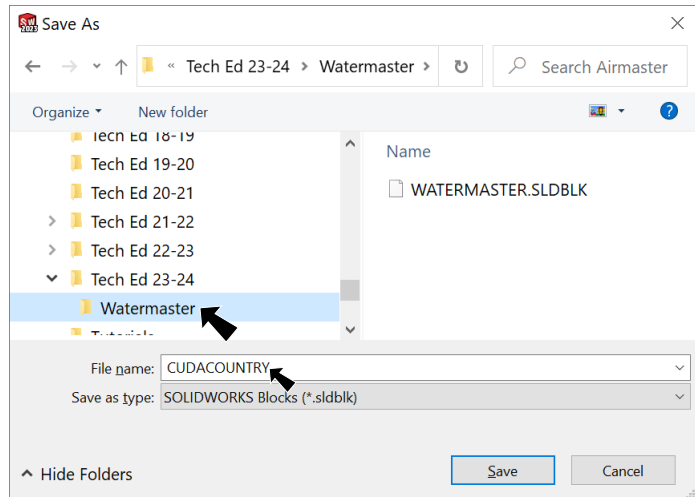

Fig. 45
Step 3. In the Save As dialog box, Fig. 45